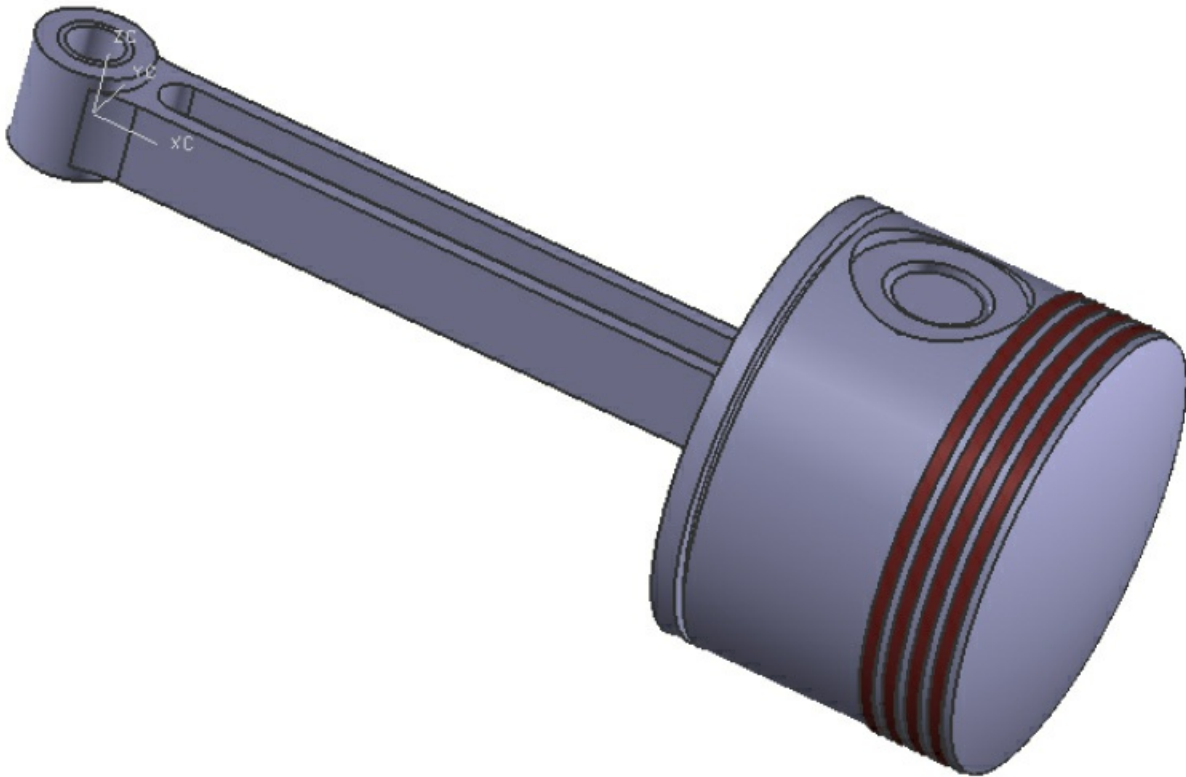

Figure 9-64 *The sub-assembly after assembling all instances of the Piston Rings*
3. Assemble the Piston Ring to the Piston by using the assembly constraints. The completed Articulated Rod_Piston sub-assembly is shown in Figure 9-64. Next, choose the **Save** button.